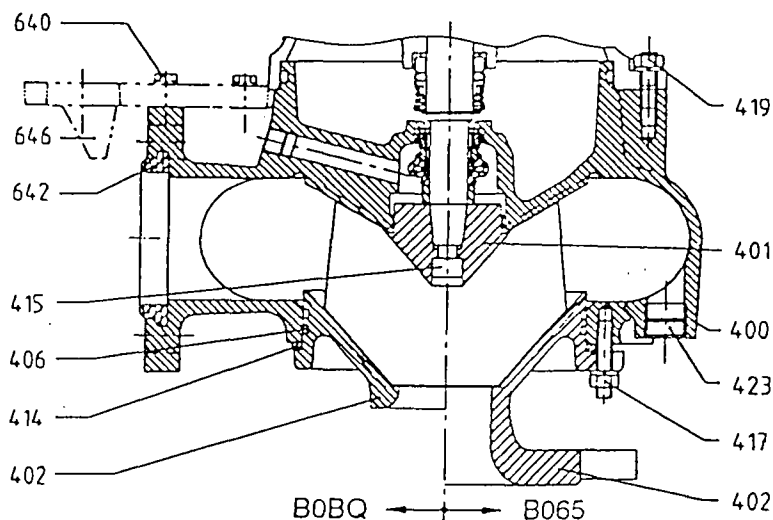

Fig. 6:
3.3.4 REMOVAL OF SUCTION COVER FOR "NON-REGULABLE" PUMPS (Fig. 6 + 7)
3.4.3 ASSEMBLY OF SUCTION COVER FOR "NON-REGULABLE" PUMPS (Fig. 6 + 7)